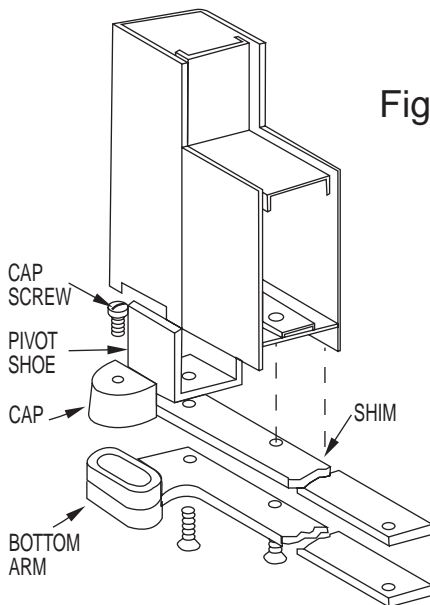

Figure 2
- 1) Open doors and turn bottom pivot support screws down until they contact the slab. Do not over-drive the screws because of additional stress being placed on pivot. See FIGURE 2
- 3) If door opening is out more than adjustable pivot can adjust. Loosen set screw on bottom frame pivot, raise secondary adjustment screw then tighten set screw back in place. See FIGURE 2. Repeat step 2 as required.